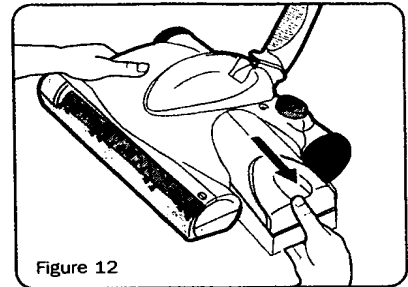

Figure 12
1. Pull out the Dust Container (4), (fig.12).